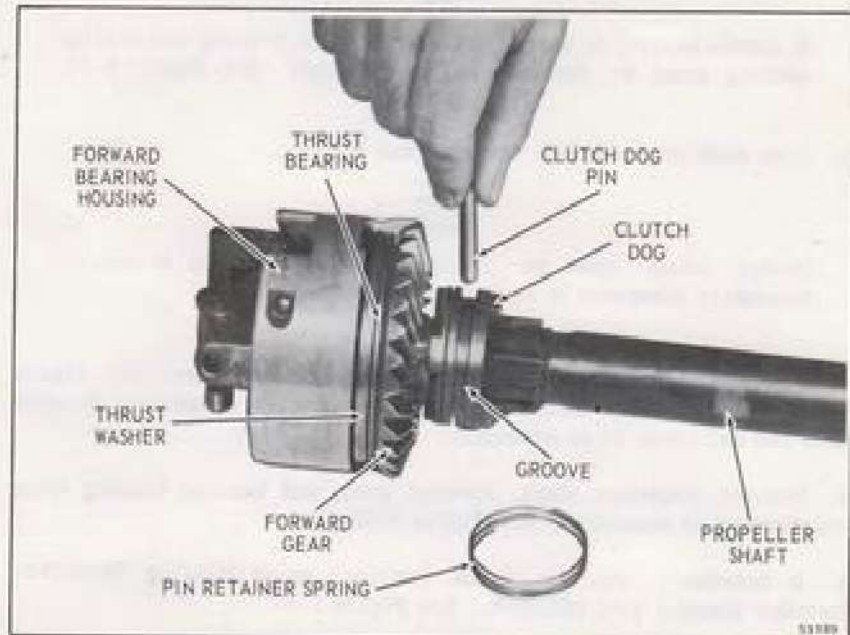

Figure 6-60. Removing or Installing Clutch Dog Pin
a. Remove clutch dog pin retainer spring and discard it. Remove pin, and remaining components from propeller shaft. See Figure 6-60.